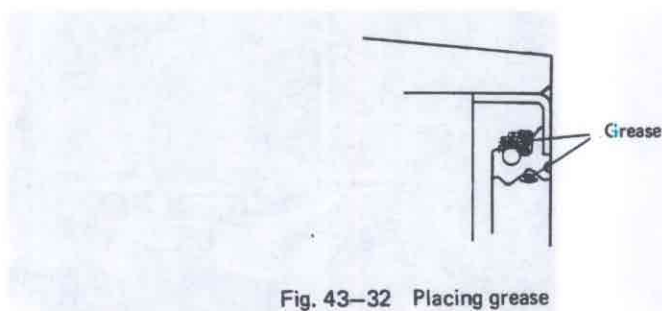

Fig. 43-32. Placing grease
5. Fill the space between the sealing lips and their reverse sides with grease, see Fig. 43-32.